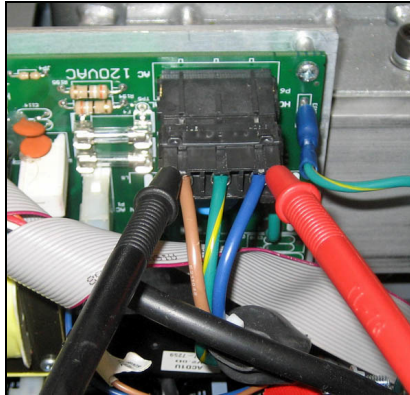

Fig. 6
1. With the power on, check the voltage on P6 on the MCB (Fig. 6). This is the main power to the MCB from the EMI filter.